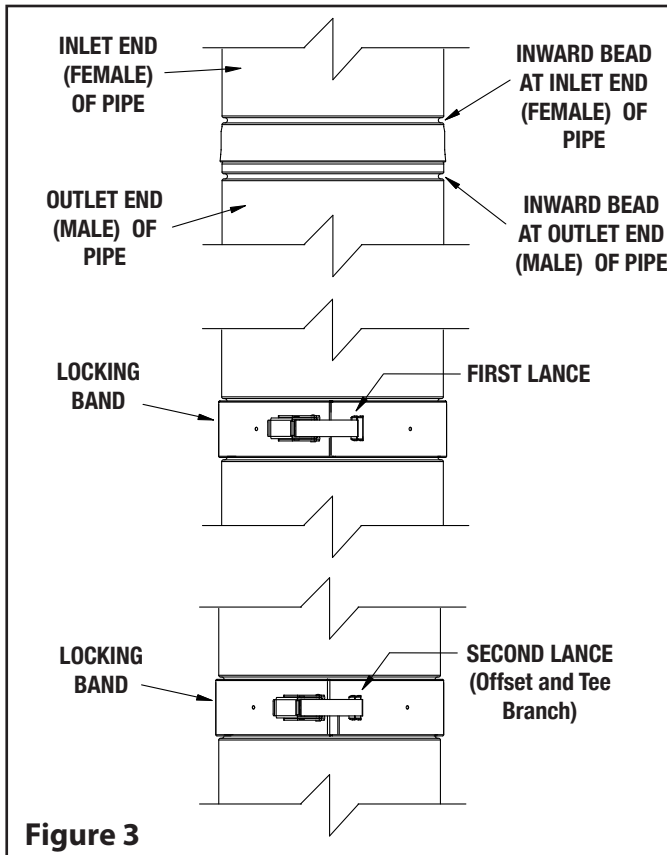
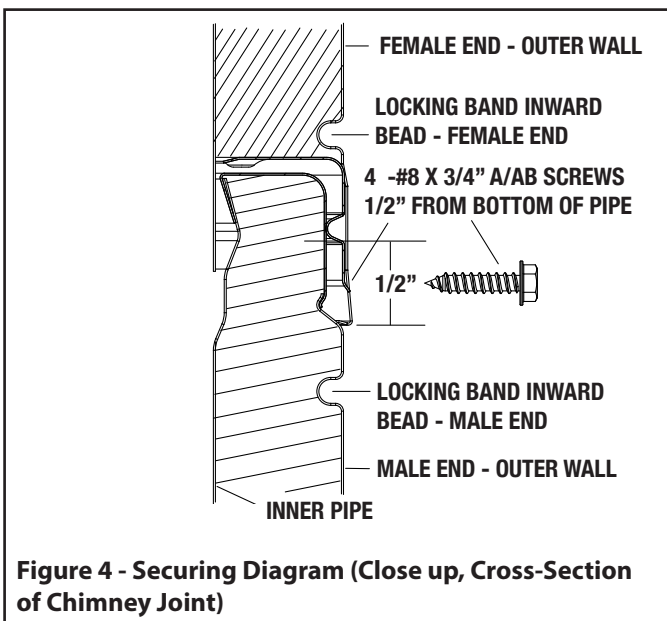

Figure 3
Figure 4 - Securing Diagram (Close up, Cross-Section of Chimney Joint)
11. The joint of the chimney pipe and fittings must be assembled with a Locking Band (supplied). See Figure 3.
- Insert the Locking band into the inward bead located on both ends. Once fully engaged in the inward beads, secure locking band with the securing latch into the farthest lance (2nd lance), see Figure 3.
- Must latched into the furthest lance (2nd lance Fig 3).
- Secured with three (3) - #8 x 3/4" A/AB Stainless Steel screws, using the pre-pierced holes on each side of the latch and one opposite the latch through the locking band into the joint.
**NOTE: ALTERNATE JOINT SECURING:** As an alternate to the Locking Band, you can secure the joint with four (4) - #8 x 3/4" A/AB stainless steel screws (not supplied) Pre-drill if necessary. Must be evenly spaced, 1/2" from the end of the pipe. See Figure 4.
**NOTE:** If a joint is to be located within the Attic Insulation Shield, you will need to substitute the Locking Band with 4 sheet metal screws instead (refer to Figure 4 on page 6).